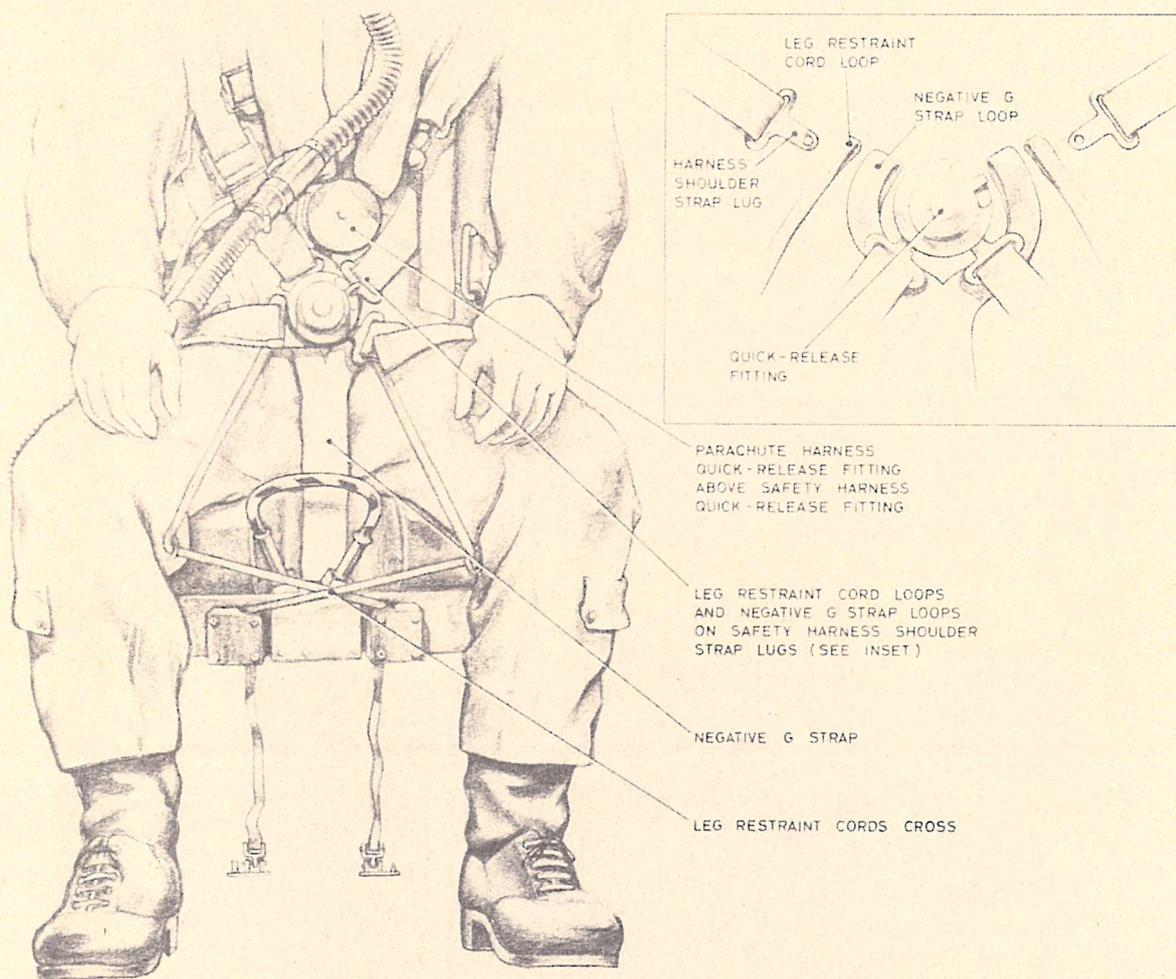

Fig. 4. Arrangement of leg restraint cords (inset: Assembly to quick-release fitting)
23. The strapping-in procedure is as follows; refer to fig. 4 to 6 for detail as necessary:-
through the garter ring on the right leg and UNDER the safety harness lap strap. Insert the lug of the safety harness right shoulder strap through the loop at the end of the leg restraint cord and also through the loop at the end of the right branch of the negative-G restraint strap. Secure the lug in the quick-release fitting (see inset of fig. 4).